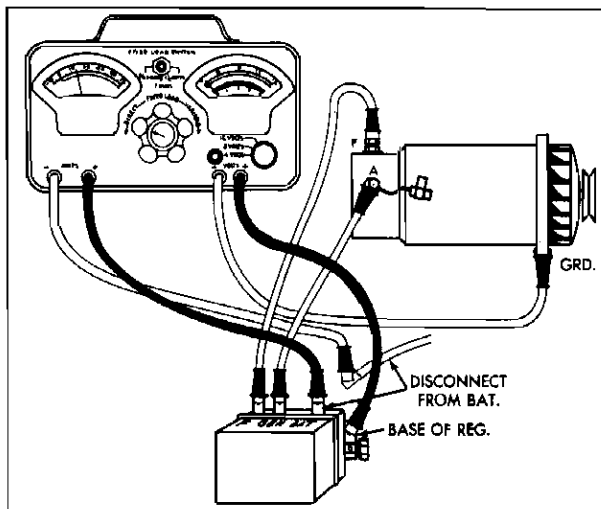

Fig. 11-14 Regulator Ground Test
3. Connect ammeter as shown in Fig. 11-14.